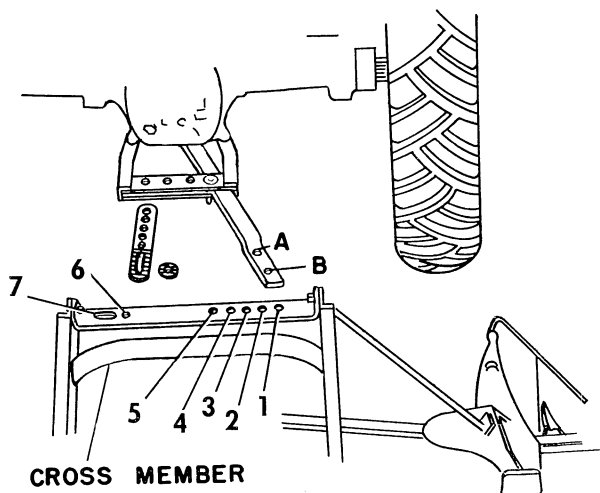

FIGURE 1
1. Place the tractor swinging drawbar in the shortest position and swing to the extreme right **locking** in place as shown in Figure 1. **If necessary, insert spacers so that there will be no lateral movement of the drawbar.**
4. Set the mower on the swinging drawbar with the forward point of the inner shoe approximately in line with the outer edge of the tractor tire, as shown in Figure 1, and bolt to the tractor drawbar in position A. Use position B if the end of the drawbar would strike the cross member of the mower in the close coupled position or if a longer hitch is desired. It is desirable to use holes 1, 2 or 3, Figure 1, of the support bar. Reposition the tractor wheel if one of these cannot be used.
Back the tractor in position with the mower support bar under the mower hitch. Bolt the support bar to the mower hitch using the holes number 2 and 6 as shown in Figure 1. Reposition the right tractor wheel if it is too close to the standing crop.